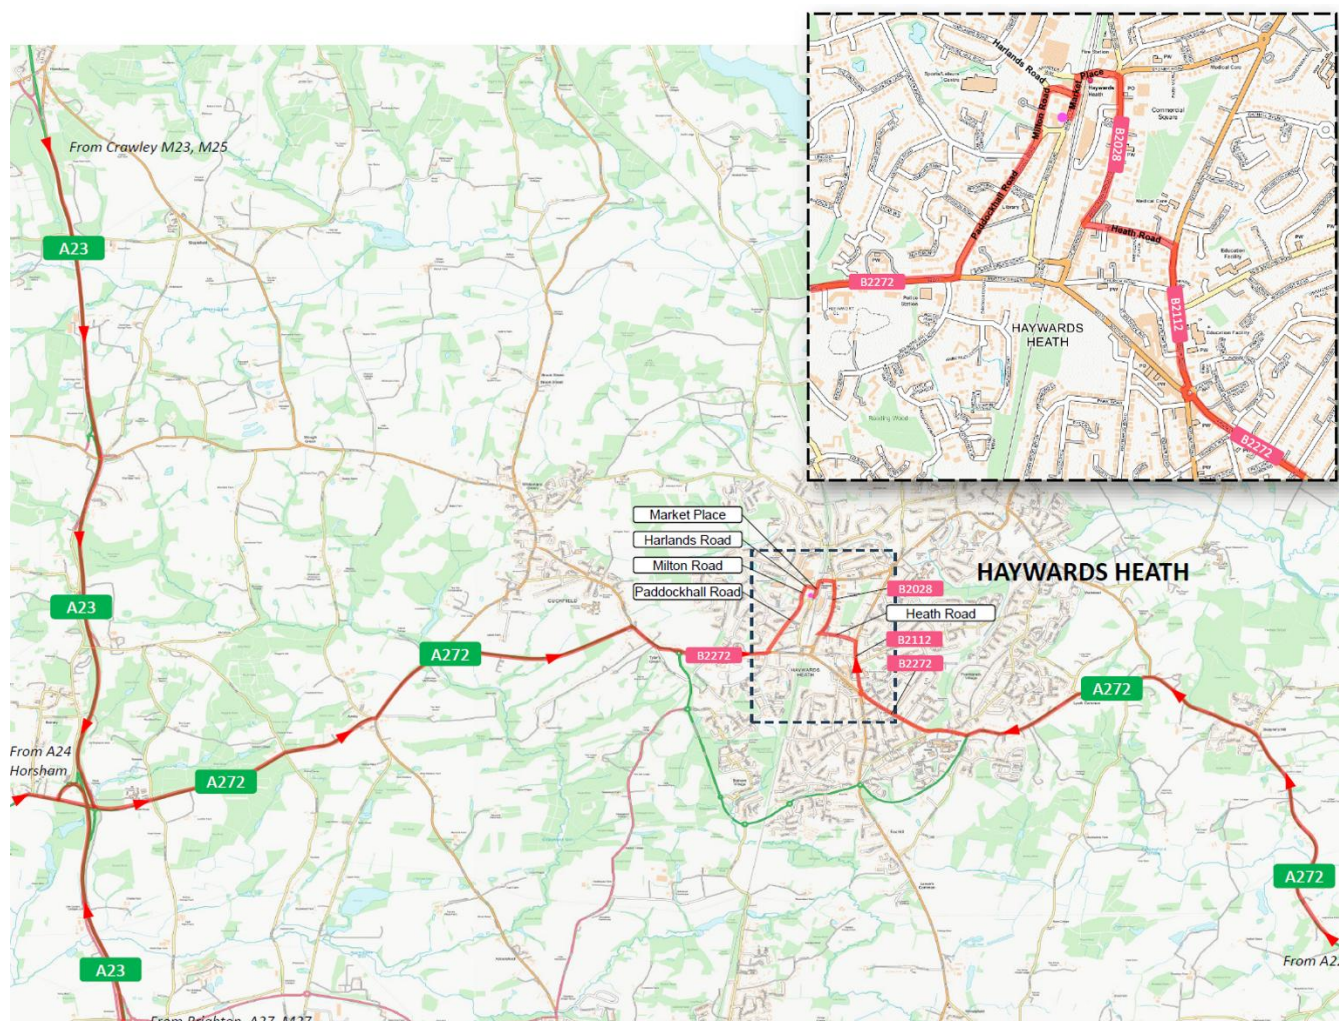

Figure 3.1: Strategic Routing Overview – Arrivals
- 3.1.2 An overview of the local routing strategy is provided in **Figures 3.1** and **3.2**. Larger scale routing plans are attached at **Appendix C**. A summary of the HGV routing and associated swept path analysis is identified in **Figure 3.3**.